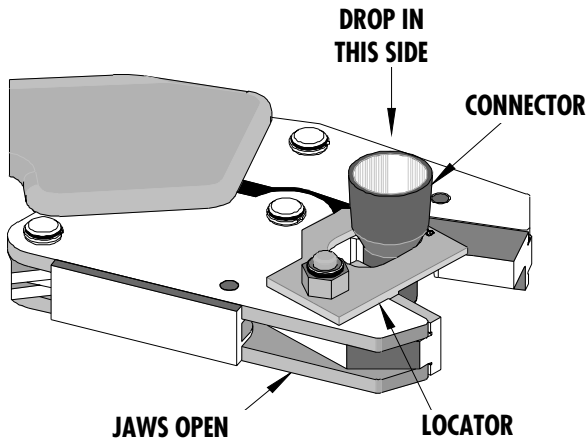

Figure 1
1. Hold hand tool with the locator facing up. Insert the closed end connector in the correct slot (8). Make sure that the shoulder of the connector is resting on the locator plate (See Figure 1).